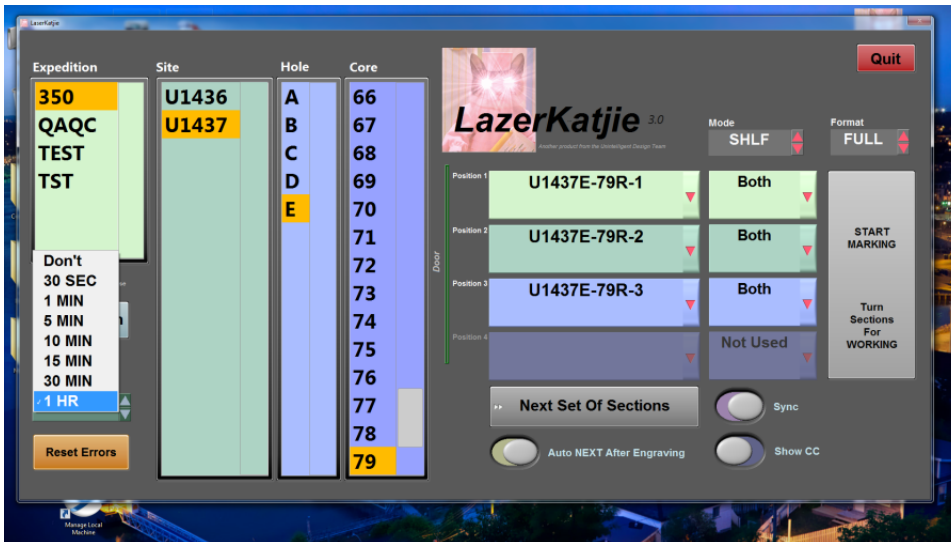

Figure 2. Automatic Update Options (red box in lower left corner).
- ii. The **CHECK FOR UPDATES EVERY** button allows the user to select a frequency of automatic updates (Figure 2) Be aware that if the user is inputting a specific/unique order of sections or engravings, the automatic update will refresh the section positions. The refresh will cause the engraving selections to be reset which may lead to mistakes if the user does not begin the laser process before the update occurs.